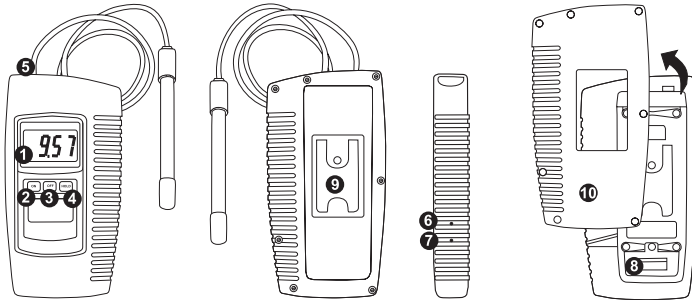

Figure 1
- 1) Connect the Salt probe to the probe input socket (Figure 1, ❺).
- 5) Press the „Hold Button“ (Figure 1, ❹) will hold the measured value and the LCD will indicate a „Hold“ symbol on the display during the measurement. Press the Hold Button again to exit the data hold function.